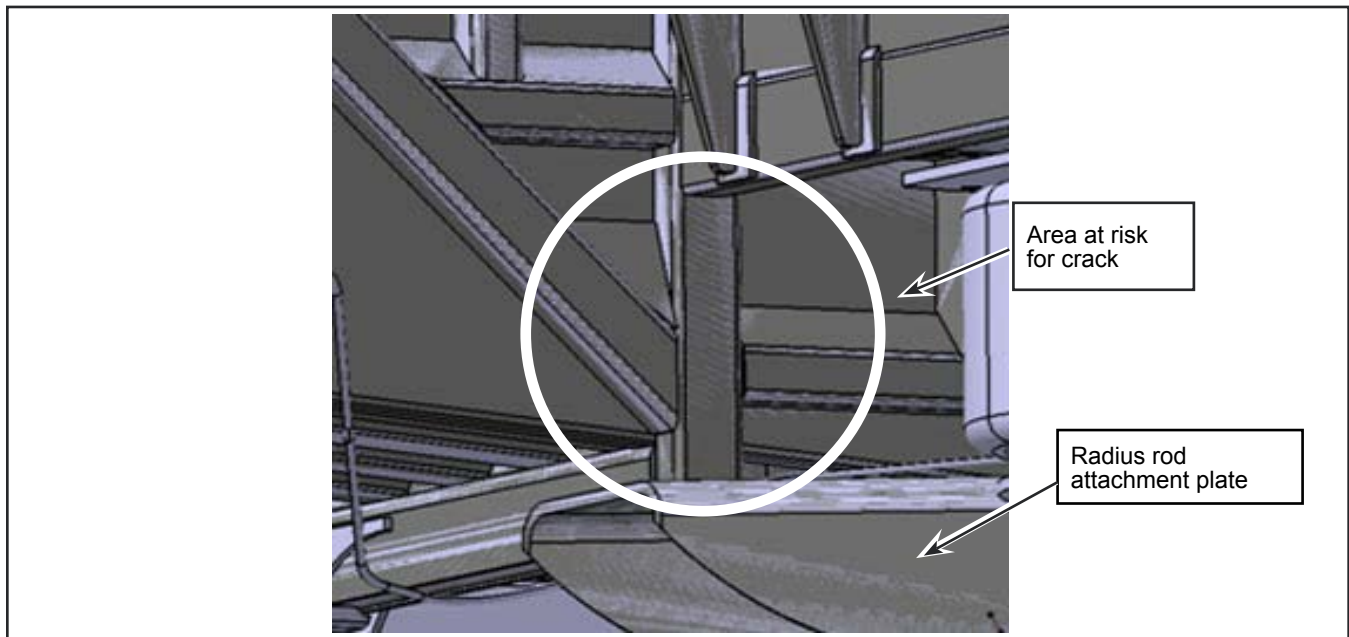

Figure 1 - Area at Risk for a Crack
This information letter applies only to vehicles with a crack located near the radius rod attachment plate. See Figure 1 for the area at risk for a crack.
- 1.8. Remove the p-clamp holding the pneumatic hoses and electrical cable, located in the zone to be reinforced. Retain the hardware and the p-clamp. See Figure 1.